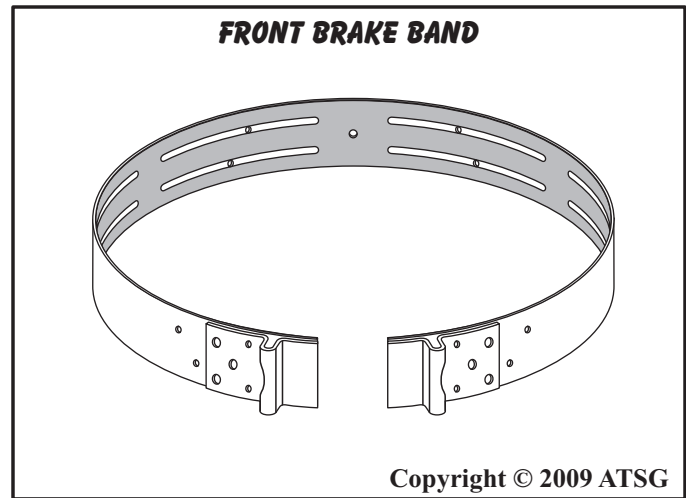

Figure 113
13. Inspect front brake band for any wear and/or damage, as shown in Figure 113, and set aside for the final assembly process.